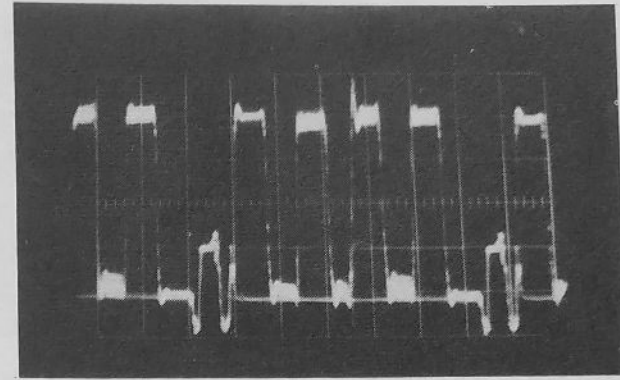

Figure 31. Input, Video Input 2J13. Output
37. Adjust the PHASE and CHROMA GAIN controls to obtain a proper blue bar pattern. (See Figure 31.)
13. Connect the scope probe to the blue output. Adjust 2Z1 for proper blue bars (Figure 31). Repeat step 39 of the Sweep and Video Procedure.